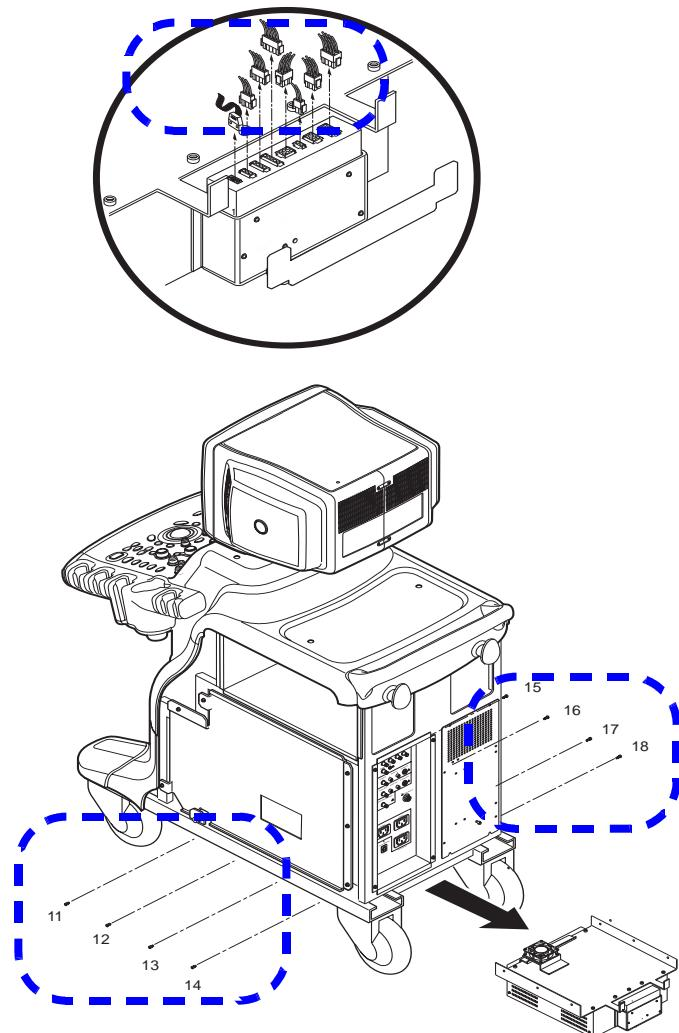

Figure 8-173 Removing the AC Power Assy
- 3.) Unscrew ten (10) screws (11-20) to remove AC Power assy. Refer to Figure 8-173.